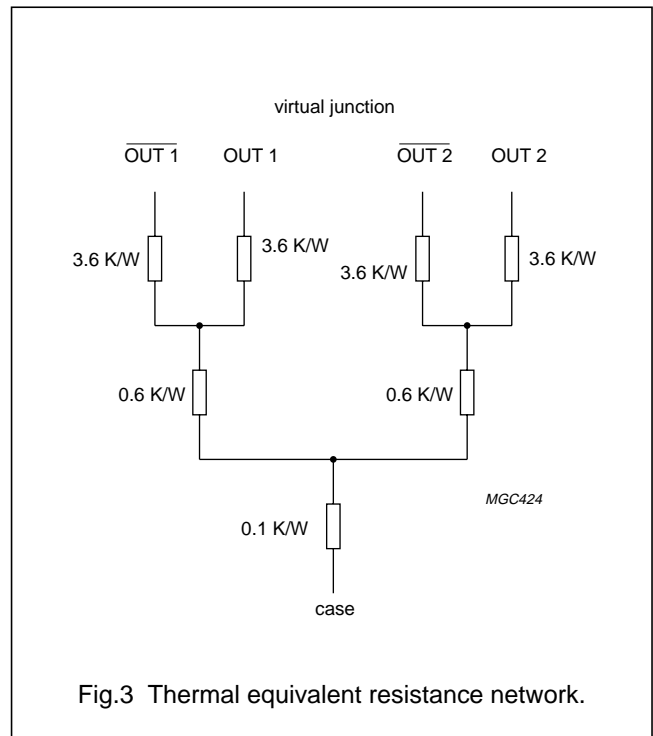

Fig.3 Thermal equivalent resistance network.
- The value of R_{th(c-h)} depends on the application (see Fig.3).